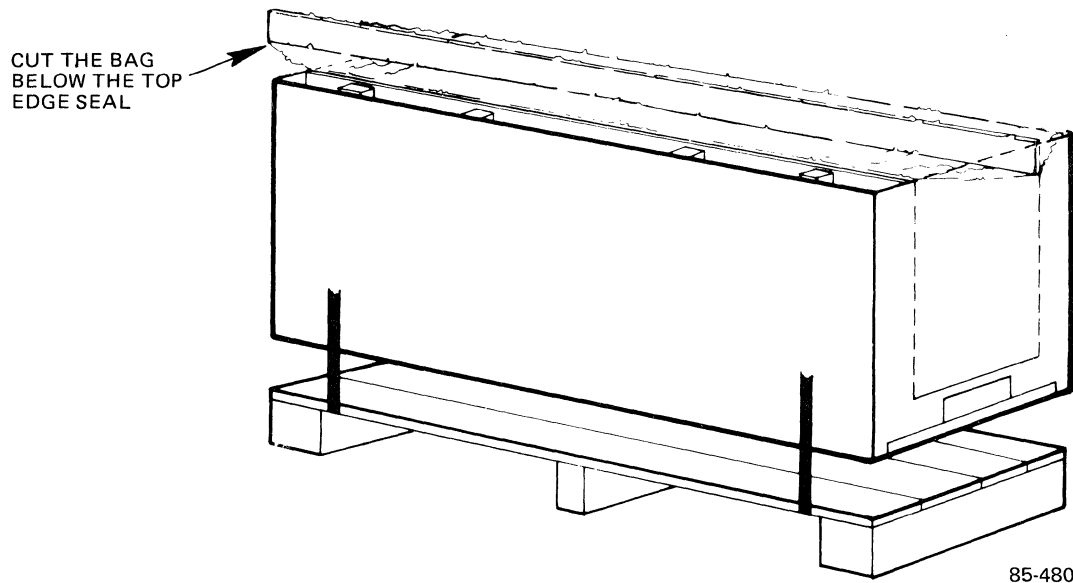

Figure 2-2. Cutting the Metalized Bag
- Carefully cut open the sealed metalized bag immediately below the top edge seal (see Figure 2-2).